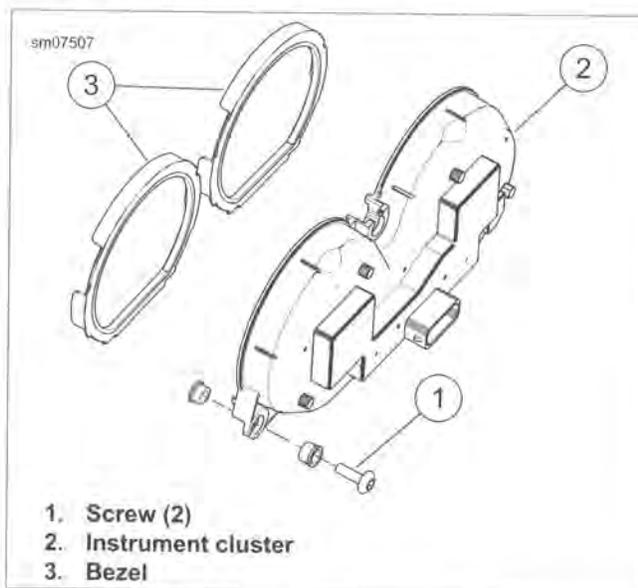

Figure 7-79. Instrument Cluster
5. See Figure 7-79. Remove screw (1). Remove instrument cluster and bezels.
1. See Figure 7-79. Carefully align bezels in openings.
2. Install instrument cluster in inner fairing. Secure with screw (1). Tighten to 8-12 in-lbs (1.0-1.3 Nm).